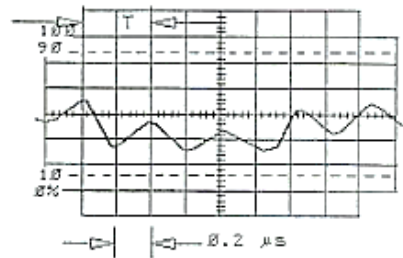

Figure 3-27.
21. To determine that frequencies in the range of 2455 kHz are present, set the oscilloscope sweep to 0.2 $\mu\text{s}/\text{DIV}$. The signal on channel 2 should appear, as shown in Figure 3-27. Measure and record the period (T). Each horizontal division is 0.2 μs .